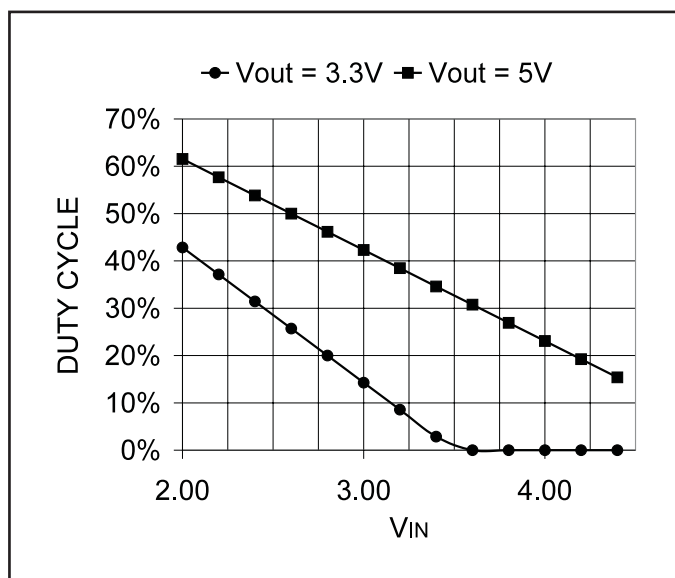

Figure 9. Duty cycle of CCM boost converter as a function of input and output voltage.
All boost and flyback converters using peak current mode control are susceptible to a phenomenon known as sub-harmonic oscillation when operated in the continuous conduction mode beyond 50% duty cycle. Continuous conduction mode (CCM) means that the inductor current never goes to zero during the switching cycle. For a CCM boost converter, the required duty cycle for a given input and output voltage (neglecting voltage drops across the MOSFET switches) is given by equation (7). This is shown graphically for a number of common output voltages in Fig 9. For example, it can be seen that for a 3.3V output (using the boost topology) slope compensation will not be required because the duty cycle will never exceed 50%.